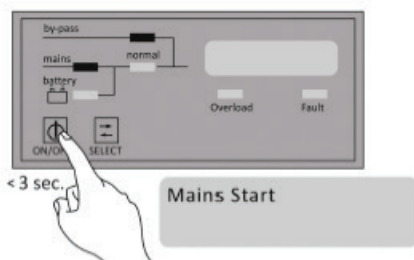

Figure 3.4
Step 3: If the mains and the by-pass LEDs are on, press the ON/OFF button shortly and observe the 'Mains Start' warning (Figure 3.4). If the Fault LED is on, press the ON/OFF button shortly to turn off the audible warning, press shortly again to see 'Battery Start' warning (Figure 3.5) and wait until normal LED is on.